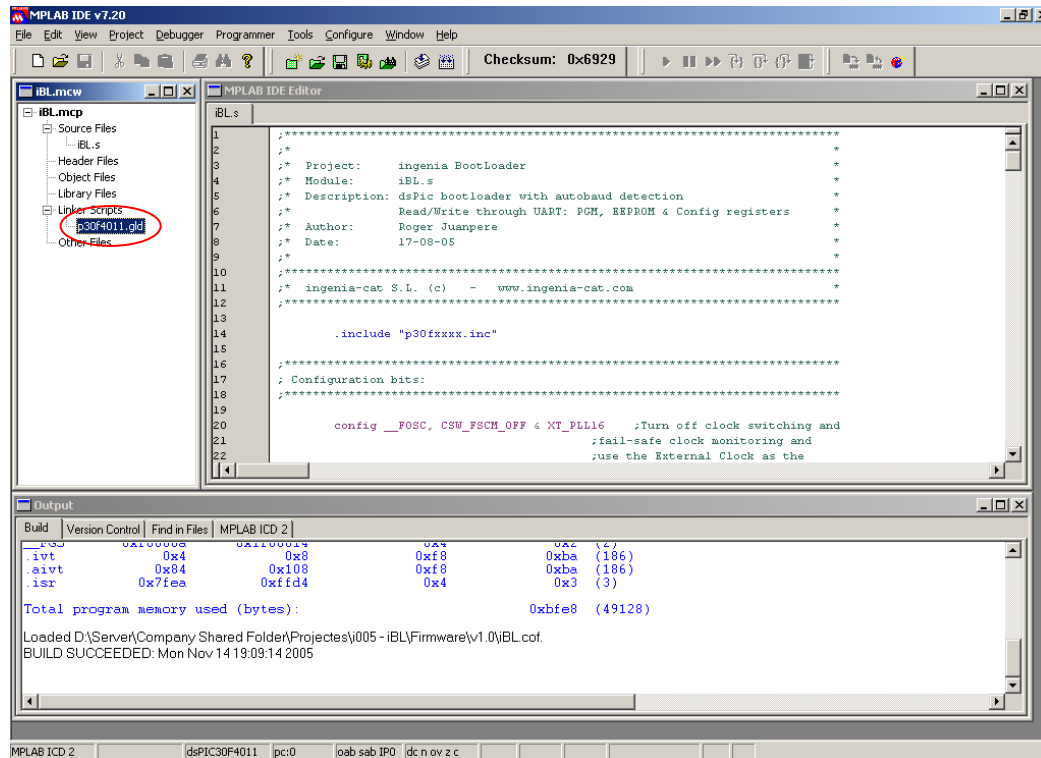

Figure 5: Modifying the linker script
5. Add this linker script to the project (See Figure 5).